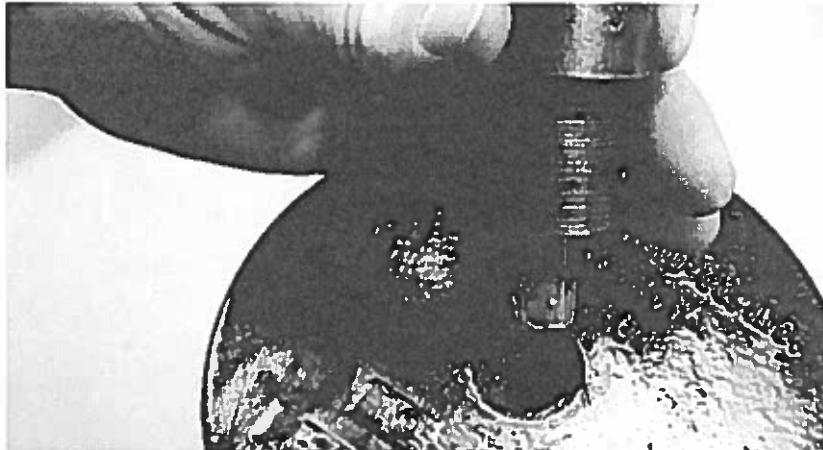

Figure 4
5. Take care to align the hole in the puller with the Allen socket in the retainer. Insert an Allen drive socket through the puller and into the retainer socket (Figure 4).